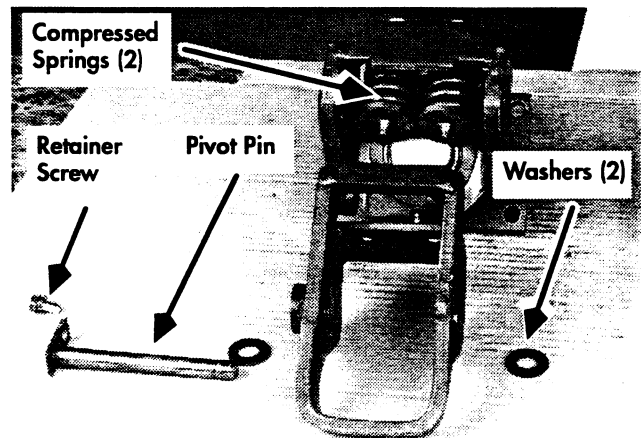

Figure 6-71: Separated Caster
1. Lubricate the pivot pin with white lithium grease (P/N 00590-04833-71). See Figure 6-71.